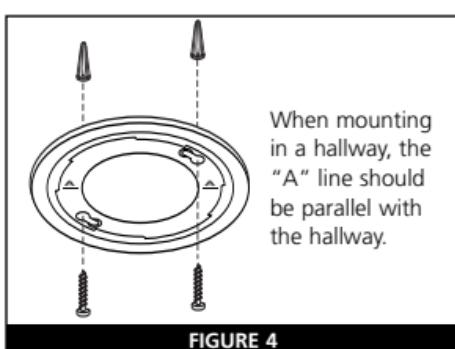

FIGURE 4
2. After selecting the proper smoke alarm location as described in Section 1, attach the mounting bracket to the ceiling as shown in figure 3. For wall mounting see figure 4. Place the mounting plate on the wall; be sure the "A" line is horizontal (parallel to the floor). Use the screws and anchors provided to secure the mounting bracket (use 3/16" drill bit for anchors).